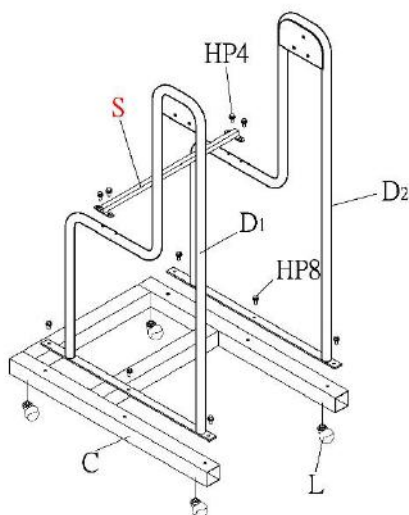

Figure 3
1. Install four casters (L) to base (C). See Figure 3.
2. Install left and right stands (D1,D2) to base (C) with flange head screws (HP8).
3. Install stand support (S) to base (C) with flange head screws (HP4).